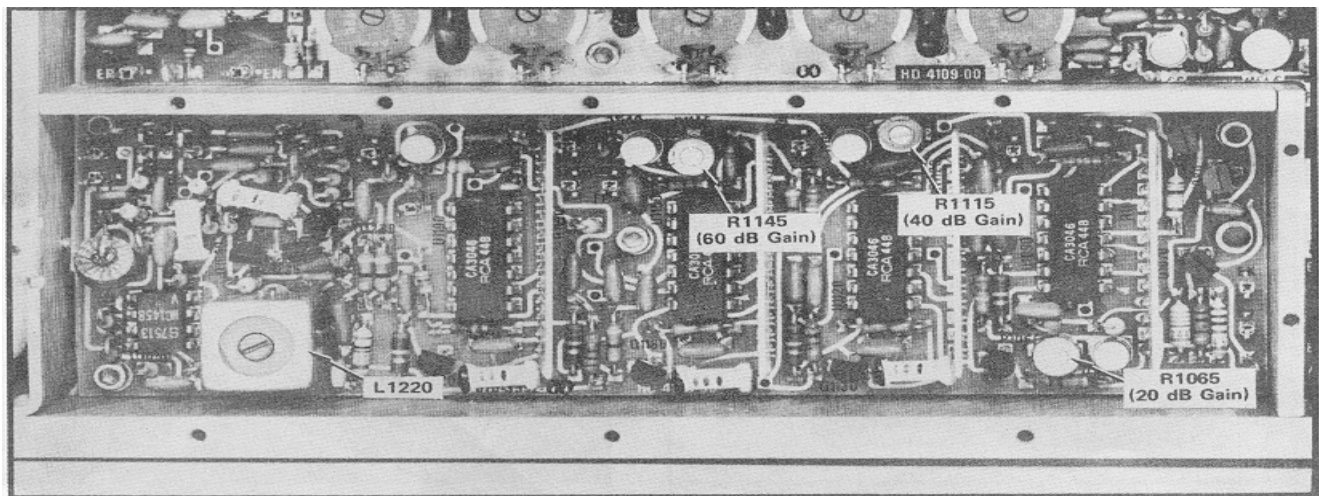
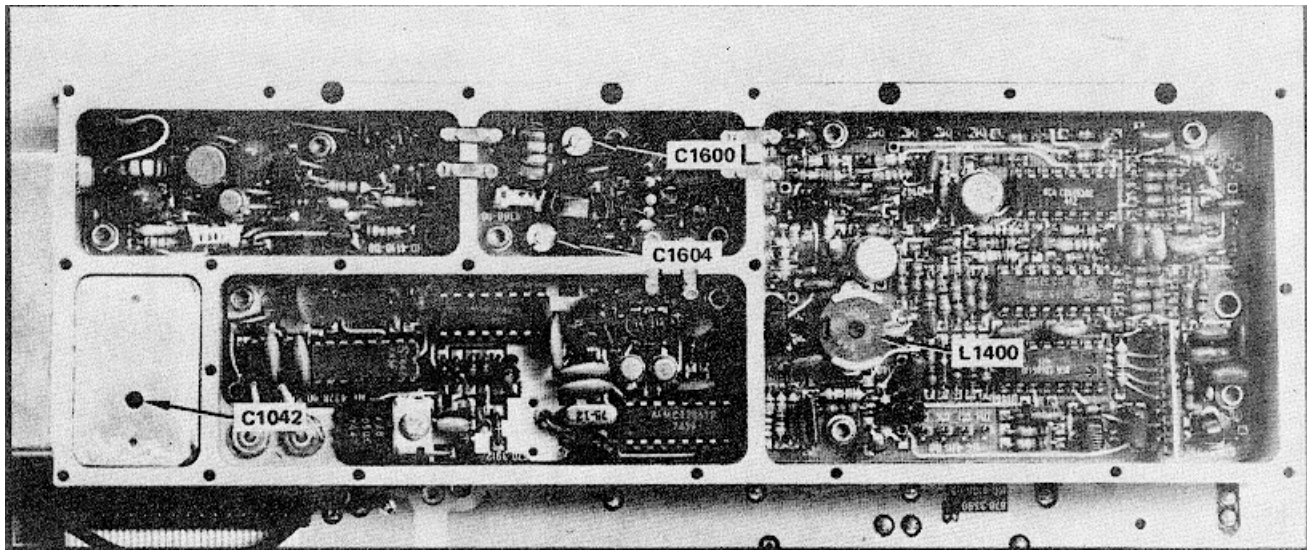

Fig. 4-13. Test points and adjustments on the Log/Ln Amplifier board.
Figure 4-14. Test points and adjustments on the 250 kHz IF Amplifier, 10.8 MHz Input Filter and 2nd Mixer.
3. Adjust the 20 dB Gain, with R1065 (Fig. 4-13), so the signal level equals the reference level (established in step 1).
5. Adjust the 40 dB Gain with R1115 (Fig. 4-13) so the display level equals the reference level.
6. Repeat the procedure to calibrate the 60 dB Gain with R1145 (Fig. 4-13).
c. ---Adjust L1200 (Fig. 4-13), L1400, C1604, C1600, and C1042 (Fig. 4-14) for maximum response to the 500 kHz Calibrator signal.